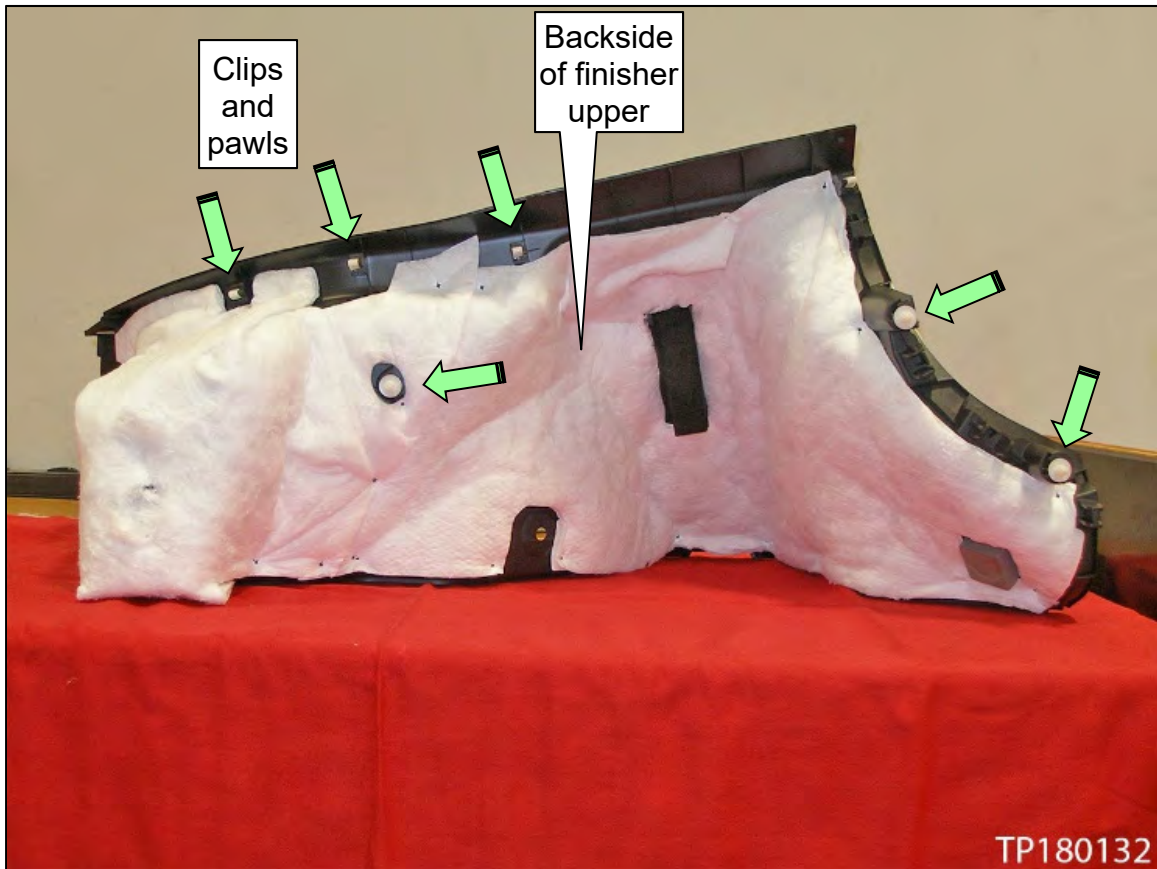

Figure 30
- Pawl and clip locations are shown in Figure 30. Locations are the same on the LH & RH luggage side finishers upper.